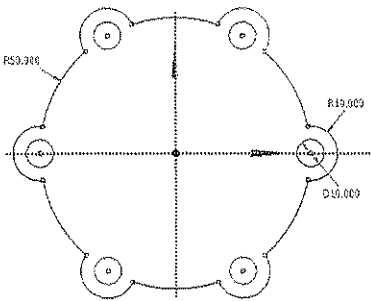

Figure 4-54 Sketch after trimming the undesired portions of the sketch
19. Invoke the **Trim** tool from the **Modify** toolbox and trim the undesired portions of the sketch, refer to Figure 4-54.
There is a possibility that even after trimming all entities you may not get the desired sketch, as shown in Figure 4-54. This may happen because the extension lines of diameter dimension 100 mm are displayed on the locations where you have trimmed the entities. In such a case you need to delete the diameter dimension of value 100 mm and create the radial dimension for any one of the arcs.